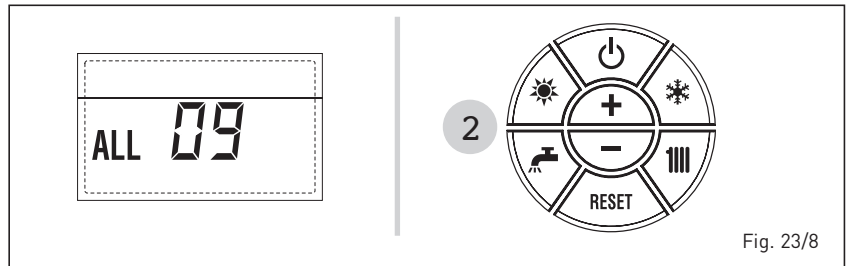

Fig. 23/8
- **AUXILIARY SENSOR ALARM 10 (fig. 23/9)**